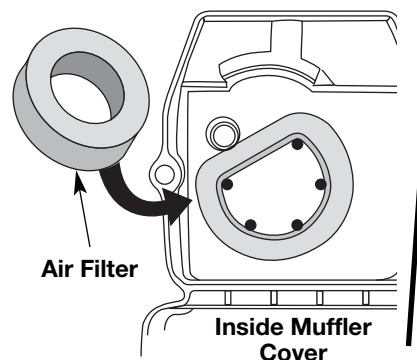

Fig. 33
2. Turn cover over and look inside to locate the air filter. Remove the air filter from inside the air filter/muffler cover (Fig. 33).
6. Replace the air filter inside the air filter/muffler cover (Fig. 33).